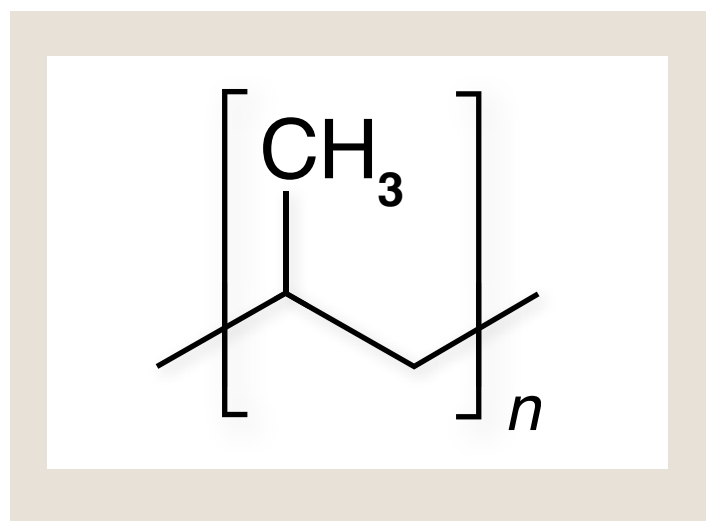

Fig. 3: The chemical structure of polypropene (PP)
Let's check the next important type of polymer: Polypropene (PP), well-known as polypropylene, which is globally the second most important plastic. PP is used in the lab, for example, for centrifuge tubes, pipette tips, trays, beakers, or cylinders [10 – 13]. PP is made from propene through polymerization with specific catalysts. The polymer chain consists of a carbon backbone with alternating methyl- and hydrogen side groups [Fig. 3]